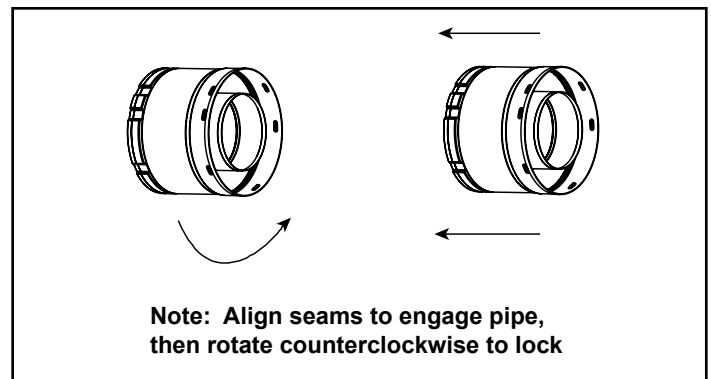

Figure 7.2 Adding Venting Components
- Align the seam of the pipe and seam of collar to allow engagement. Rotate the vent component to lock into place. Use this procedure for all vent components. See Figure 7.2.